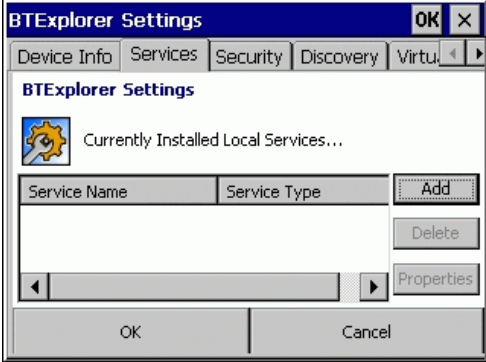

Figure 2-129 BTE Explorer Settings Screen
2. Select **Add** in Figure 2-129 and choose a service from the list.